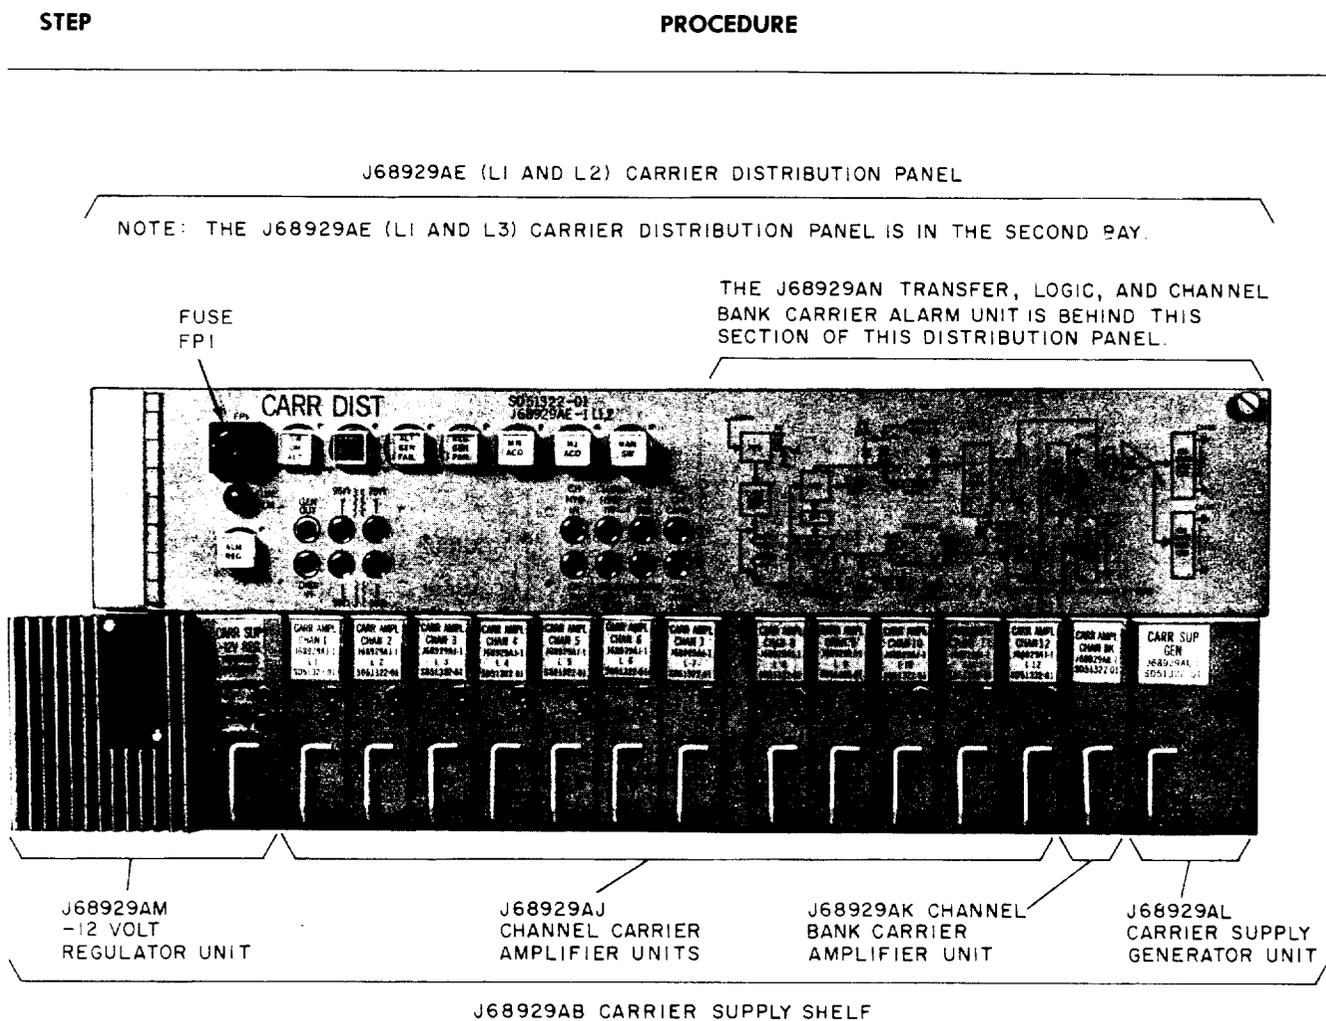

Fig. 2—A6 Carrier Supply and Distribution Panel
- (b) The CARR FAIL and REG GEN FAIL lamps on the J68929AE (L1 and L2) panel (Fig. 2) are lighted.
14	<p>Insert fuse FP1 in the J68929AE (L1 and L2) carrier distribution panel (Fig. 2).</p> <p>Requirement: Fuse FP1 does not blow.</p> <p>Note: Blown fuse FP1 indications are:</p> <ul style="list-style-type: none">(a) A lighted FUSE ALM lamp on the J68929AE (L1 and L2) panel(b) A colored tip protruding through the center of the FP1 fuse holder cap.
- 17 (a) Insert the J68929AL carrier supply generator unit (Fig. 2).
19	Insert the J68929AM carrier supply -12 volt regulator (Fig. 2).
23	Insert, one at a time, the twelve J68929AJ channel carrier amplifier units and the one J68929AK channel bank carrier amplifier unit (Fig. 2). Requirement: No fuses blow.